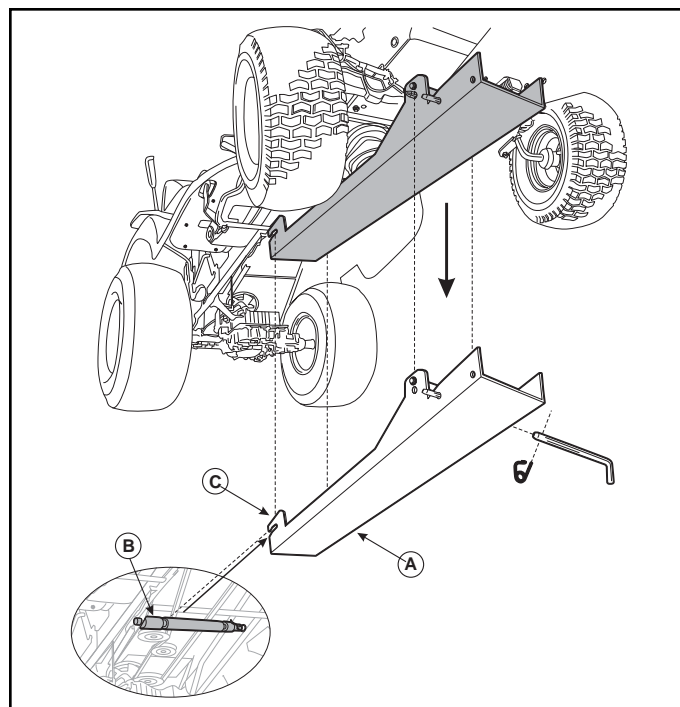

Figure 20. Hitch Removal
10. Slide the hitch assembly (A, Figure 20) forwards until the hitch mounting arms (C) are free of the hitch support shaft (B).